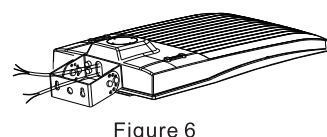

Figure 6
- Step 2: Install the mounting on the fixture. (Figure 6)